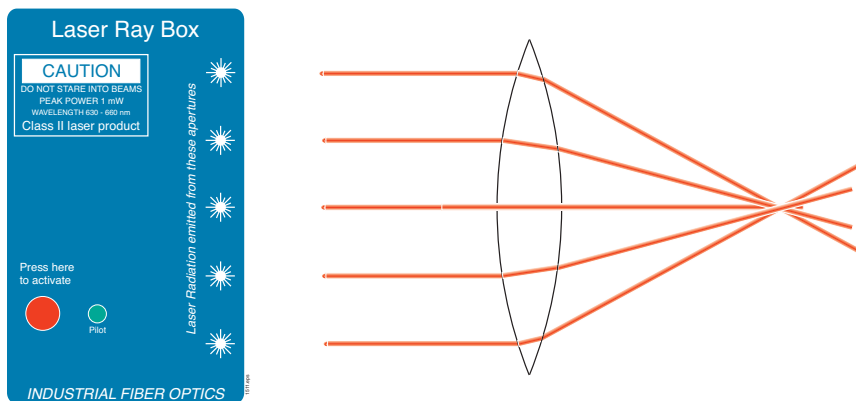

Figure 7. Laser Ray Box and a 100 mm focal length double convex lens, demonstrating the converging or focusing of light rays.
6. The next step is to demonstrate light ray bending as the beams pass through an optical lens. Place a double convex lens within the 5 laser beam paths as shown in **Figure 7**.